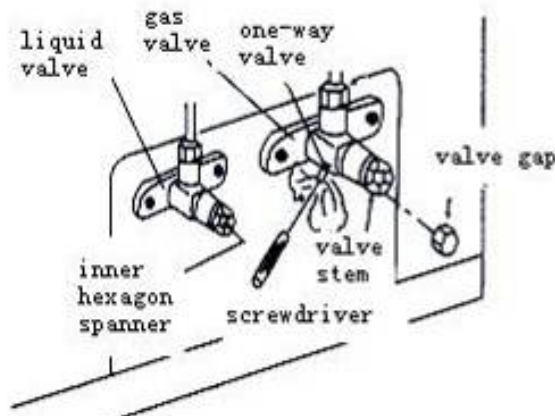

Figure 3-1-4
- ◆ Open the element of liquid valve and gas valve to full (See Fig. 3-1-4).